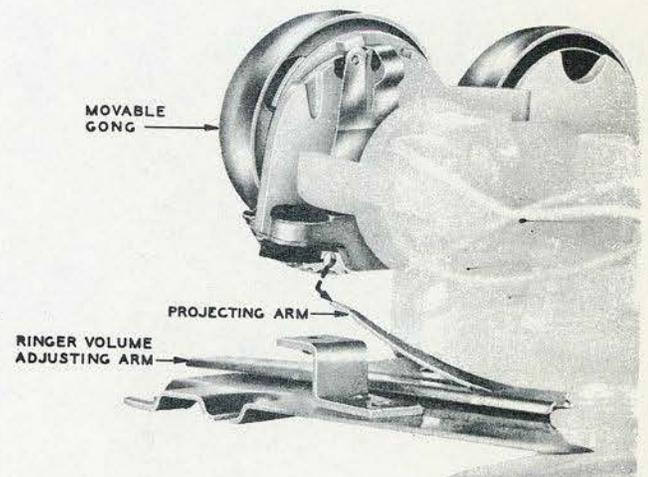

Fig. 15 – Assembly of C4A Ringer in 685-, 6-, 7-, and 8-Type Subscriber Sets, Side View
- 3.02** When replacing the C-type ringer in 686-, 7-, and 8-type subscriber sets, take care that the locating pin and projecting arm are properly seated before securing mounting screws (Fig. 15).